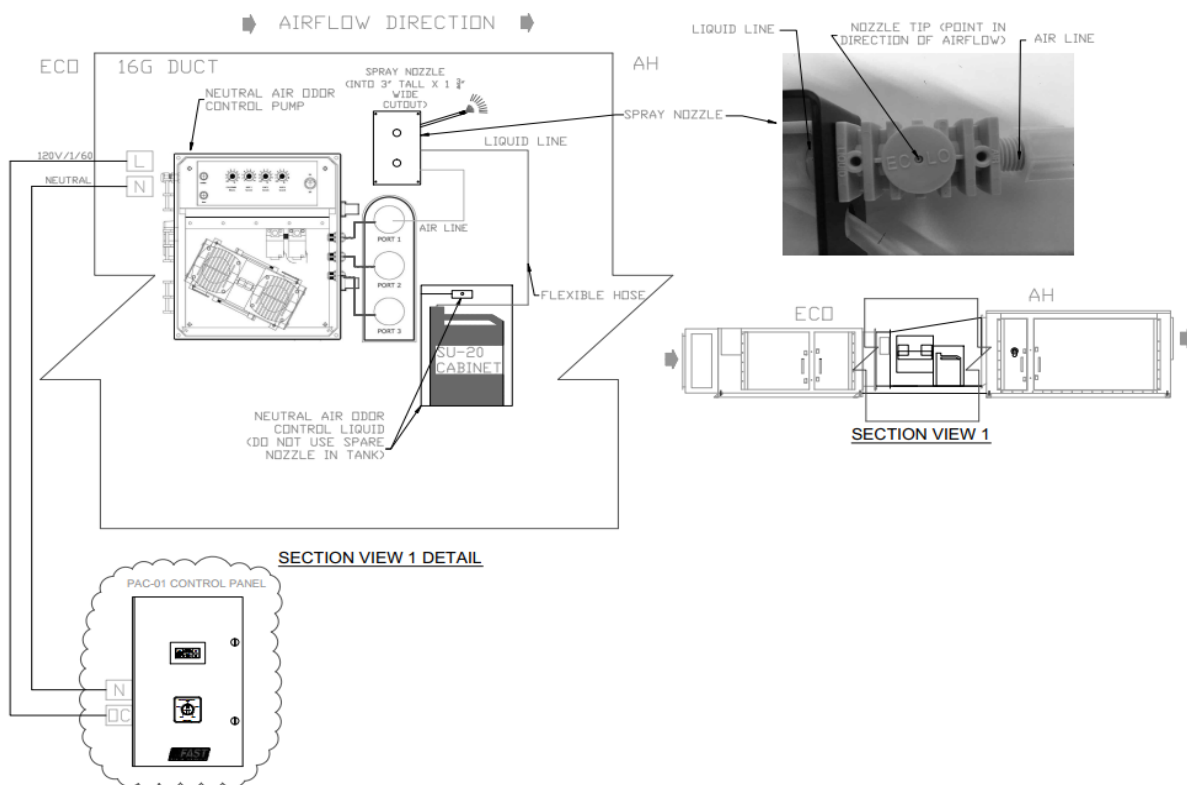

Fig 7
- To compressor runs on 120V on the line (L) and neutral (N) for the pump. The control panel supplies the 120V to the compressor when needed. Connect the line of the compressor to the terminal OC in the control panel. Connect the neutral of the compressor to the neutral in the control panel on terminal N. Refer to figure 7 for an installation diagram.